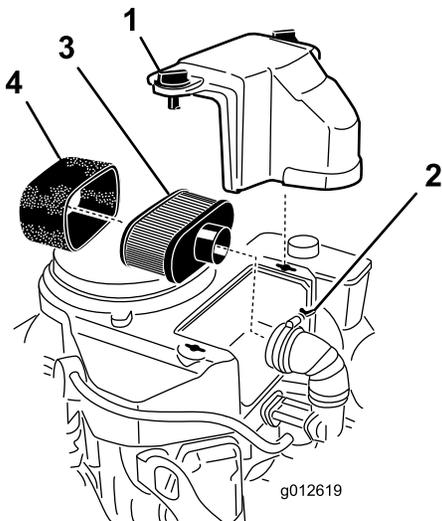

Figure 37
3. Clean around the air cleaner to prevent dirt from getting into the engine and causing damage (Figure 37).
4. Loosen the cover knobs and remove the air-cleaner cover (Figure 37).
5. Loosen the hose clamp and remove the air-cleaner assembly (Figure 37).
6. Carefully pull the foam element off the paper element (Figure 37).
1. Carefully slide the foam element onto the paper air-cleaner element (Figure 37).
2. Place the air-cleaner assembly onto the base of the air cleaner or hose and secure it (Figure 37).
3. Place the air-cleaner cover into position and tighten the cover knob (Figure 37).